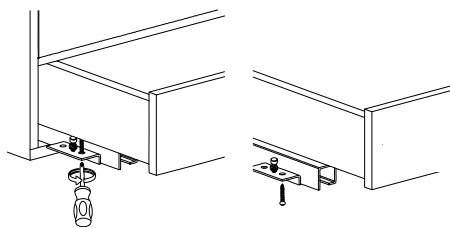

Fig. 5
3. Carefully unpack and place both vanity units down onto a flat and level surface. It may make installation easier by removing the drawers at this point - see fig. 5.
12. If necessary, the drawer runners can be adjusted in order to realign the drawer front. Ensure the securing screw on the underside of the drawer runner is removed before adjusting the drawer runner and the screw is re secured when adjustments have been completed. (Fig. 5).